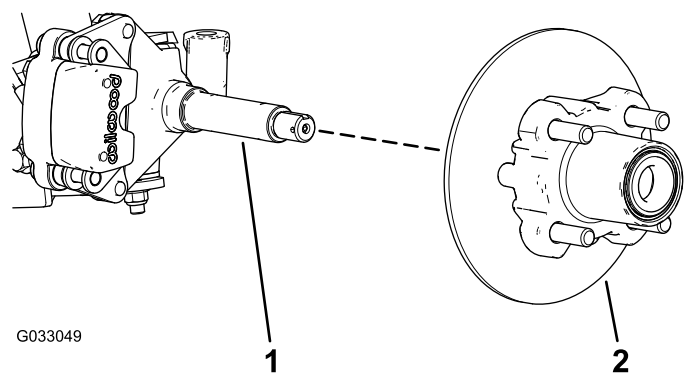
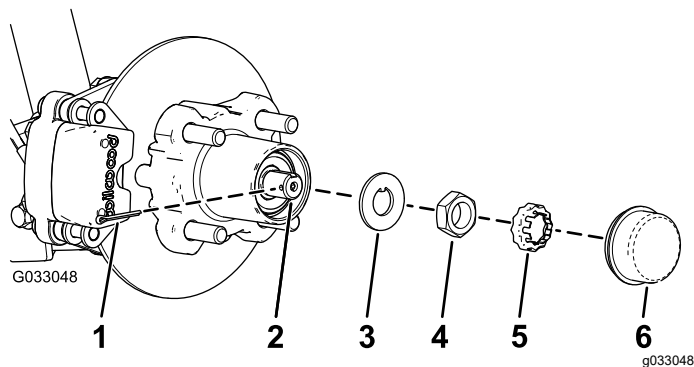

Figure 24
Figure 23
4. Remove the dust cap from the hub (Figure 23).
5. Remove the cotter pin and nut retainer from the spindle and spindle nut (Figure 23).
6. Remove the spindle nut from the spindle, and separate the hub and rotor assembly from the spindle (Figure 23 and Figure 24).